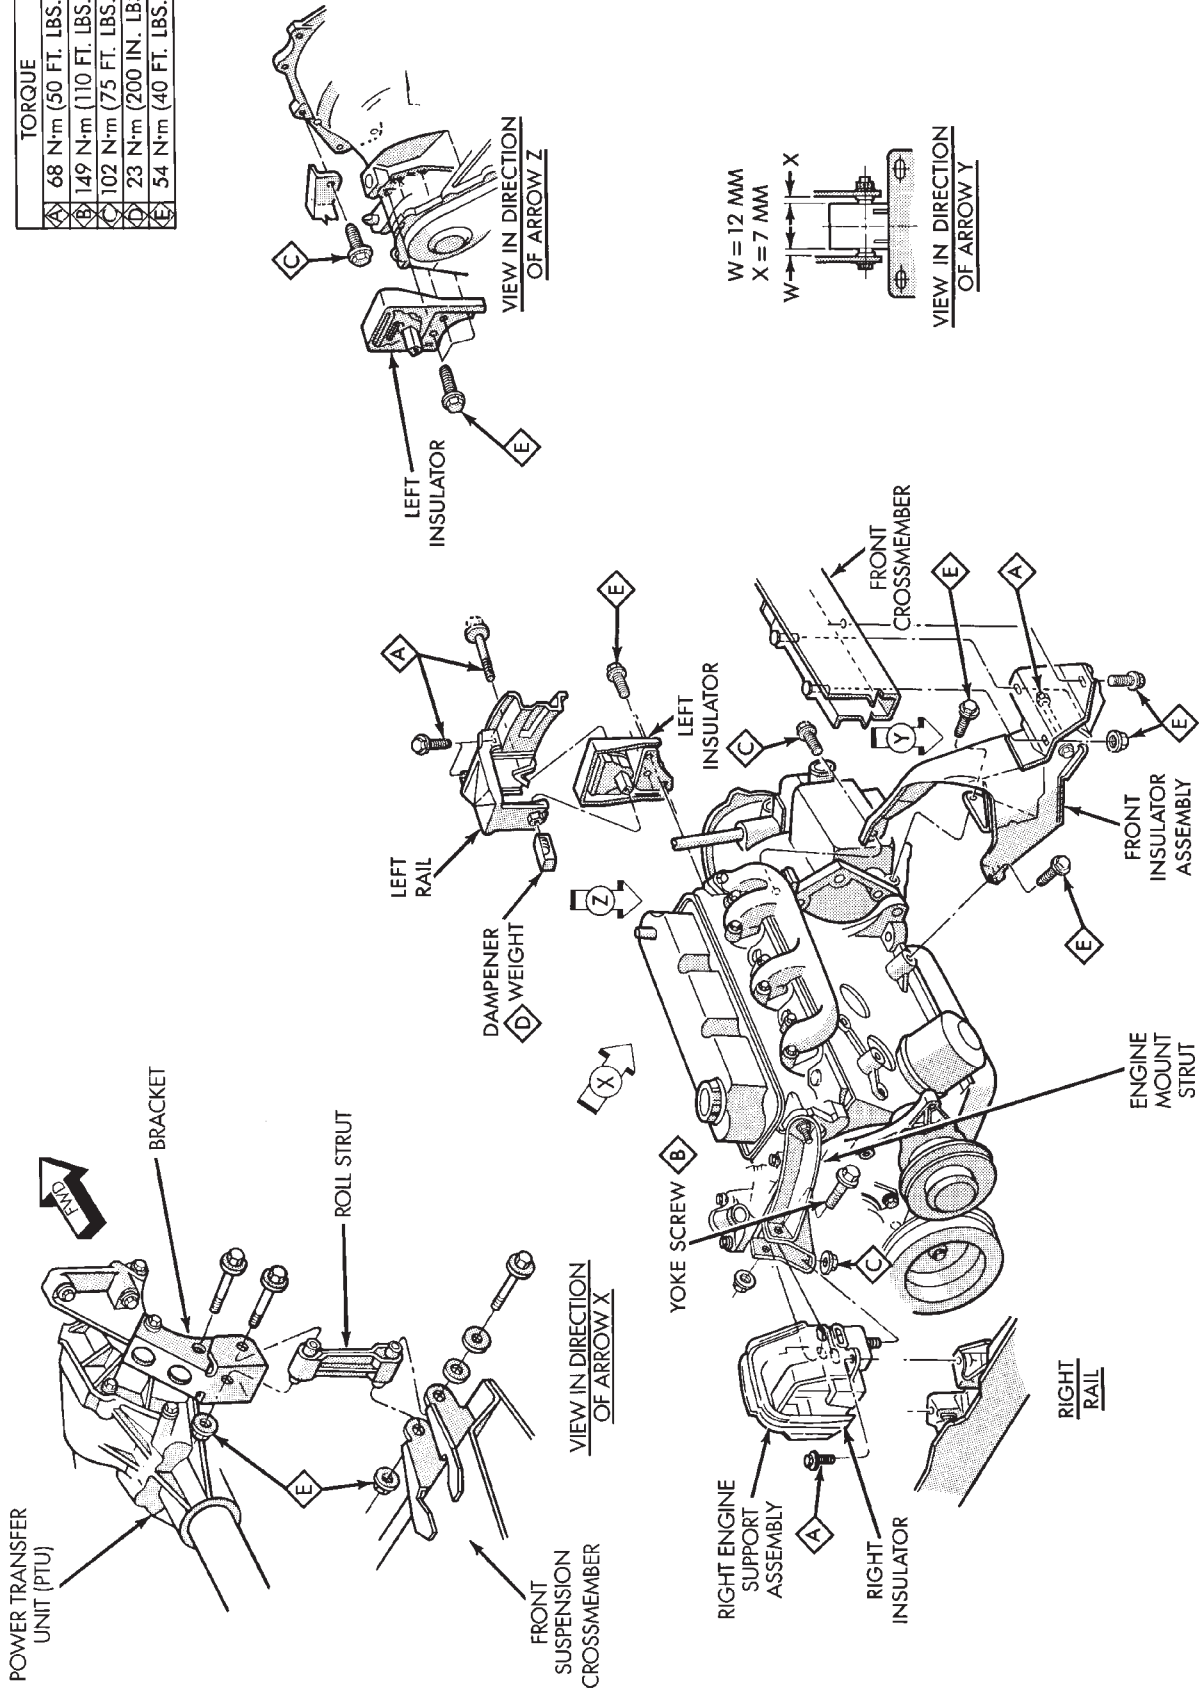

Fig. 3 Engine Mounting
- (1) Remove the right engine mount insulator vertical fasteners from frame rail.
- (2) Remove the load on the engine motor mounts by carefully supporting the engine and transmission assembly with a floor jack.
- (3) Remove the thru bolt from the insulator assembly. Remove insulator.
- (4) Reverse removal procedure for installation. Refer to (Fig. 3) for bolt tightening specifications.
- (5) Engine mount adjustment, Refer to Engine Mount Insulator Adjustment of this section.
- (1) Support the engine and transmission assembly with a floor jack so it will not rotate.
- (2) Remove the thru bolt from the insulator and front crossmember mounting bracket.
- (3) Remove the front engine mount bracket to front crossmember screws and nuts. Remove the insulator assembly.
- (1) Raise vehicle on hoist and remove left front wheel.
- (2) Remove inter splash shield.
- (3) Support the transmission with a transmission jack.
- (4) Remove the insulator thru bolt from the mount.
- (5) Remove the transmission mount fasteners and remove mount.
- (6) Reverse removal procedure for installation. Refer to (Fig. 3) for bolt tightening specifications.
- (7) Engine mount adjustment, Refer to Engine Mount Insulator Adjustment of this section.
- (11) Disconnect exhaust pipe at manifold.
- (12) Remove transmission inspection cover and mark flex plate to torque converter position. For disassembly procedure for the all wheel drive vehicle refer to Group 21 Transaxle.
- (13) Remove screws holding torque converter to flex plate and attach C-clamp on bottom of converter housing to prevent torque converter from counting out.
- (14) Remove power steering pump mounting bolts and set pump aside.
- (15) Remove two lower transmission to block screws.
- (16) Remove starter.
- (17) Lower vehicles and disconnect vacuum lines and ground strap.
- (18) Install transmission holding fixture.
- (19) Attach engine lifting hoist and support engine.
- (20) Remove upper transmission case to block bolts.
- (21) See Engine Mounting in (Fig. 3) and separate mount/insulators as follows:
- (22) Remove engine.
- (1) Attach hoist and lower engine into engine compartment.
- (2) Align engine mounts and install but **do not tighten** until all mounting bolts have been installed. Tighten bolts to torque specified in (Fig. 3).
- (3) Install transmission case to cylinder block, tighten bolts to 102 N•m (75 ft. lbs.) torque.